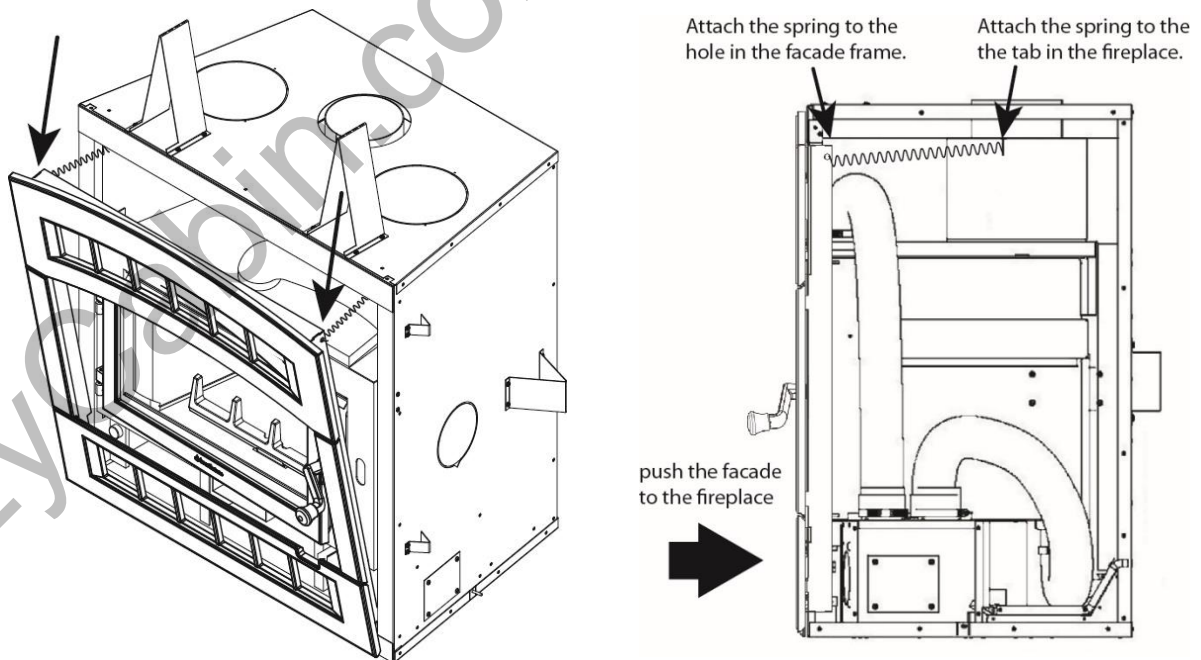

Figure 26
Attach the wooden knob to the handle using the Shoulder screw. Tighten the screw using the 5/32 hex wrench. (Figure 26)
- Firmly push the facade to the fireplace to secure the bottom. (Figure 26)